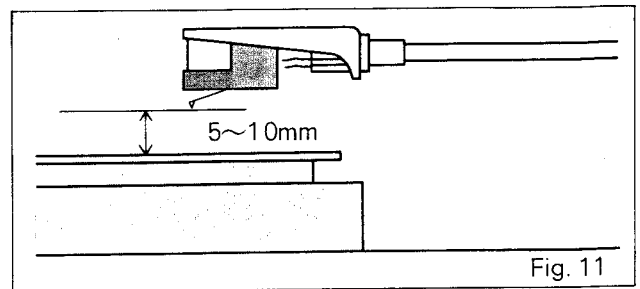
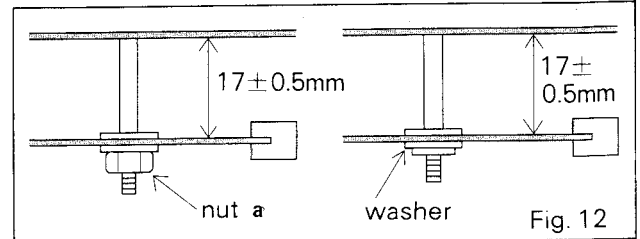
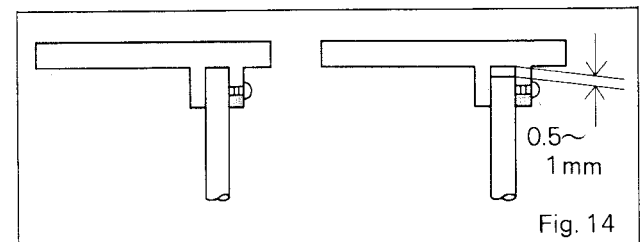

Fig. 11
Fig. 12
Fig. 14
Adjust the height from the record surface to the stylus point in the following order so that it conforms to the dimensions shown in Fig. 11 during auto return:
- (a) Turn the nut **a** of the return plate support and adjust the mounting dimensions of the return plate. For the fixed type, insert a plain washer ( $4.7 \phi \times 10 \phi \times 0.5 t - 0.3 t$ ) and then make this adjustment (Fig. 12).
- (c) If the gap is not within the dimensions specified in Fig. 11, turn the nut **a** in Fig. 12 and make another adjustment.
- (d) If the gap between the record surface and stylus point does not yet fall within the dimension specified in Fig. 11, return the nut **a**, in Fig. 12 into the original position, slightly loosen the arm support attaching screw, fix the arm support about 0.5 – 1 mm higher, and make gap adjustment as specified in Fig. 14.
(2) Manual Up